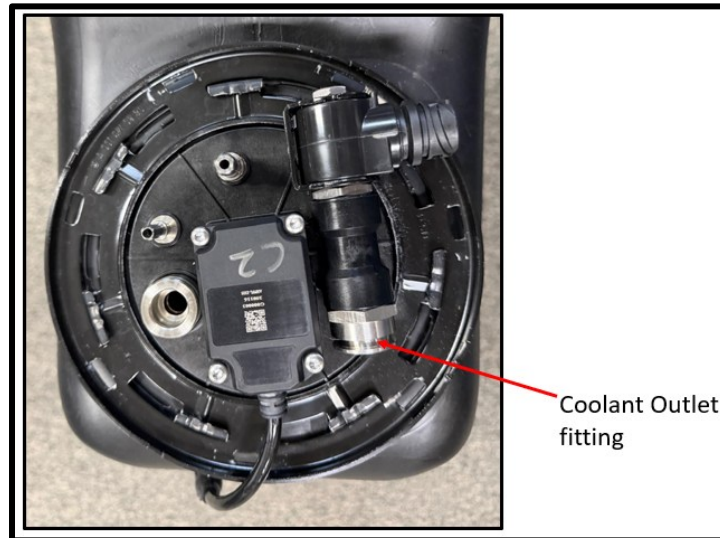

Figure 2.12 Coolant Outlet Fitting Location
- 10) Install coolant outlet hose per OEM service procedure. Refer **Figure 2.12** for coolant outlet fitting location.